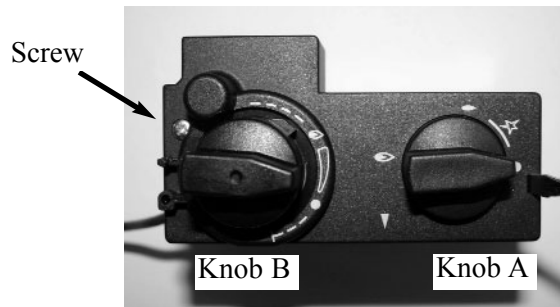

Fig. 16a
1) Remove the front cover from the valve. This is done by unscrewing the small pozi screw, located by knob B. Unclip the right hand side of the cover located to the side of knob A. See Fig. 16a & b.